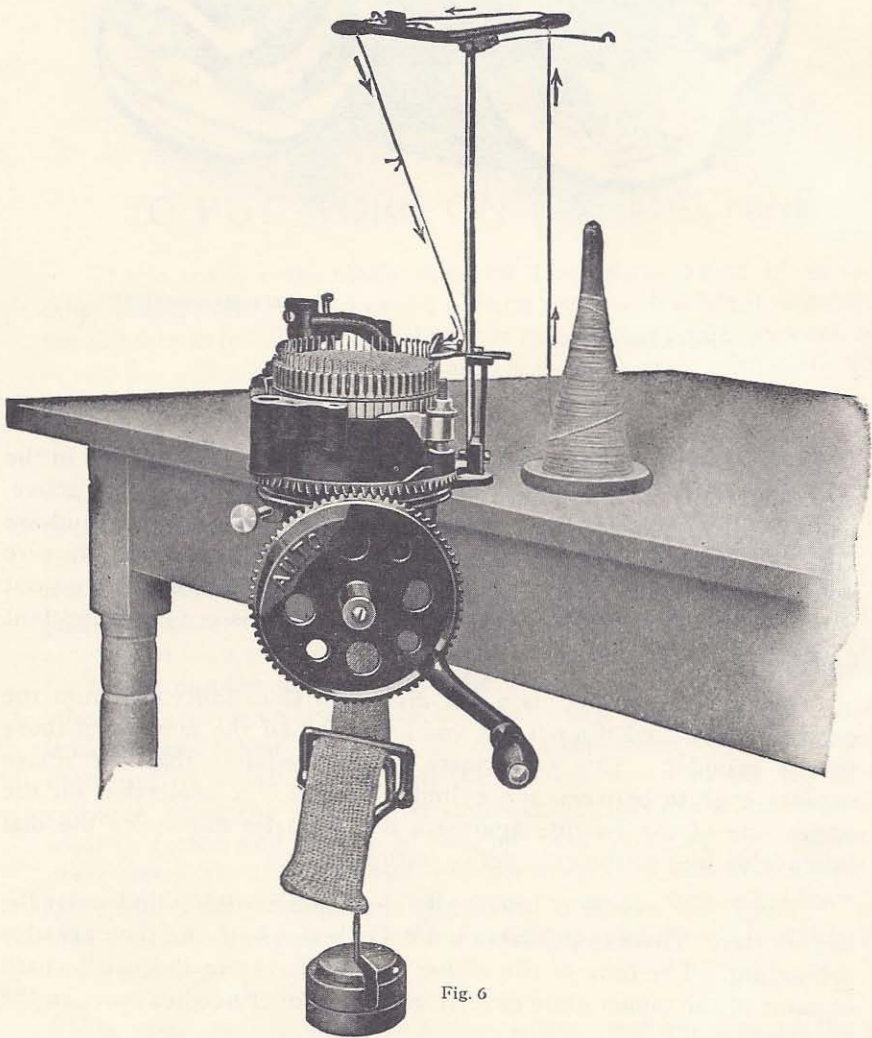

Fig. 6
The knitted work in the machine is tied to the crank wheel (C) to prevent the stitches coming off. Cut this string, taking care not to turn the handle of the machine until you have the yarn in position to feed. Should some of the web have become tangled up in the needles, push it carefully down on the needles so as to free the latches, but leave the stitches on the needles. Then draw down the knitted web with your hand and attach the buckle (O) by drawing the fabric under its frame and over its clamp and hang the weights into the buckle. See Fig. 6.
Set a bobbin of yarn directly under the eye of either short arm (b or c) of the yarn stand top. See Fig. 6 and 8. Draw the yarn up through this eye, through the hole in the lug "d" on the long arm, under the take-up lock "L-4" and down through the eye "a" at the end of the long arm, which must be exactly over the center of the cylinder. Draw the yarn through the yarn carrier from the outside through the two holes if you are setting up new work or tie this end to the end of the yarn which you unwound from the needles and wind all slack onto the bobbin. See Fig. 6. (The illustration above shows by dotted lines the position of the heel spring when making heel and toe.